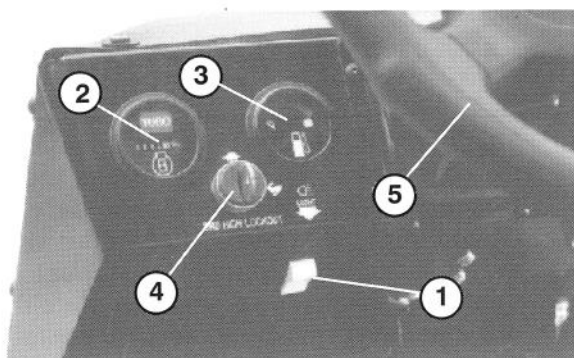

Figure 18
**Hour Meter** (Fig. 18) – Indicates the total hours of machine operation. The hour meter starts to function whenever the key switch is rotated to “ON” position.
**Light Switch** (Fig.18) – Toggle switch to activate headlights. Push to turn lights “ON”.
**Fuel Gauge** (Fig.18) – Shows amount of fuel in tank. Operates only when ignition switch is in “ON” position.
**3rd High Lockout Switch** (Fig.18) – Moving switch to slow –  – position and removing key will prevent use of third gear when in the High range. Engine will shut off if shift lever is moved to third gear when in High range. Key is installed with teeth pointing downward. Push key in to turn. Key is removable in either position.
**Steering Wheel** (Fig. 18) – Turns vehicle. If engine stalls or power assist fails due to a malfunction, vehicle steering will require greater effort.